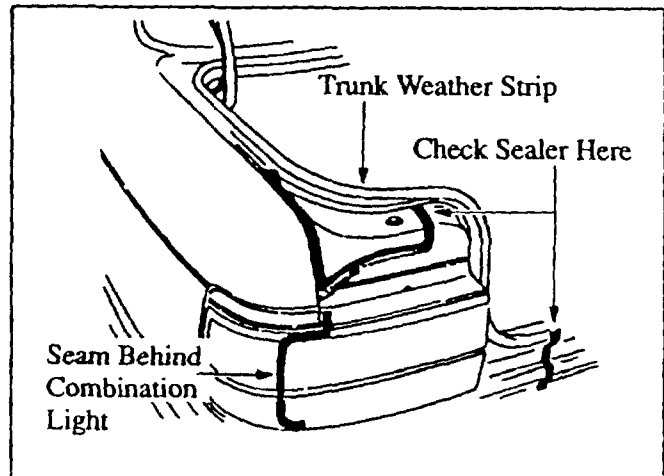

Figure 23: Inspecting Rear Trunk Area
- If water leaks into the forward area of the trunk, make sure that the weatherstrip is properly seated and not leaking. Figure 23.